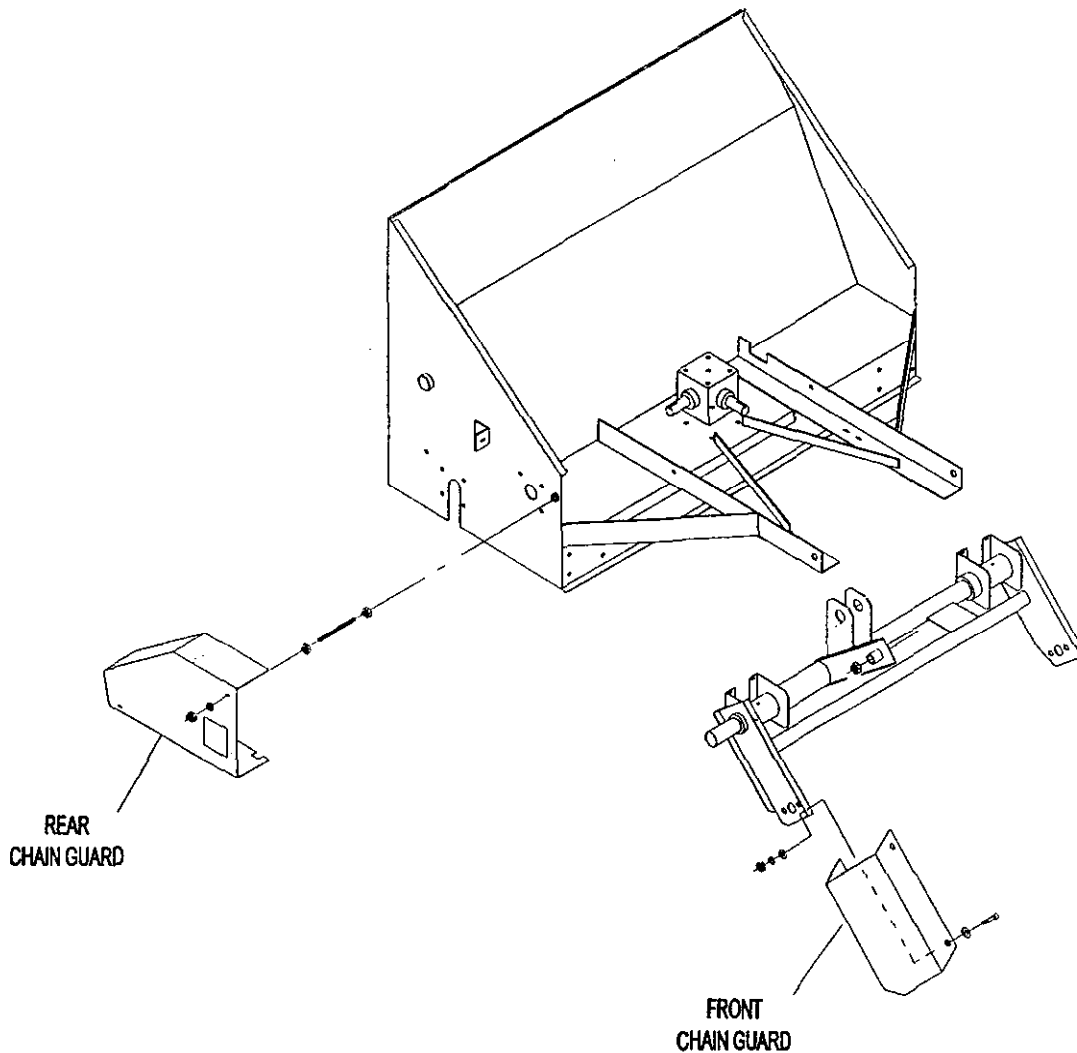

Figure 6
10. (FIG. 6) Install the thatcher guards according to the illustration, using the hardware shown.